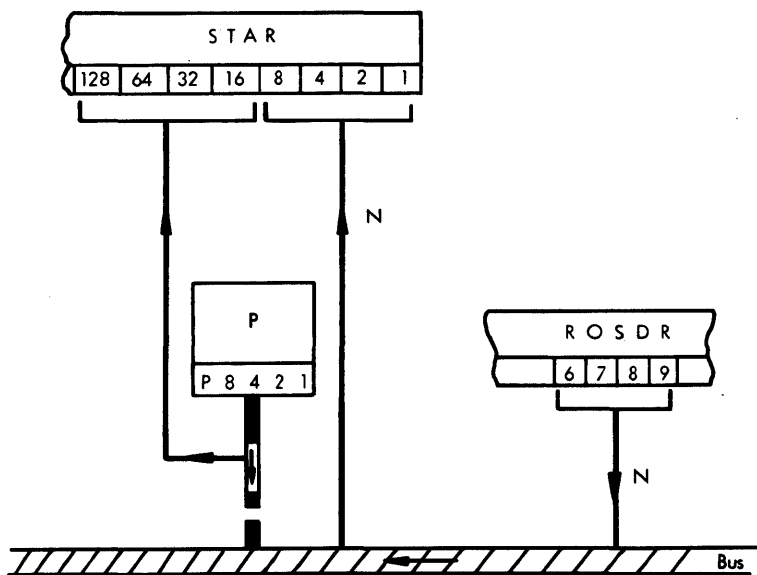

Figure 2-22 Aux Storage Address to STAR
- As shown in Figure 2-22, STAR receives the 8 bit address from: